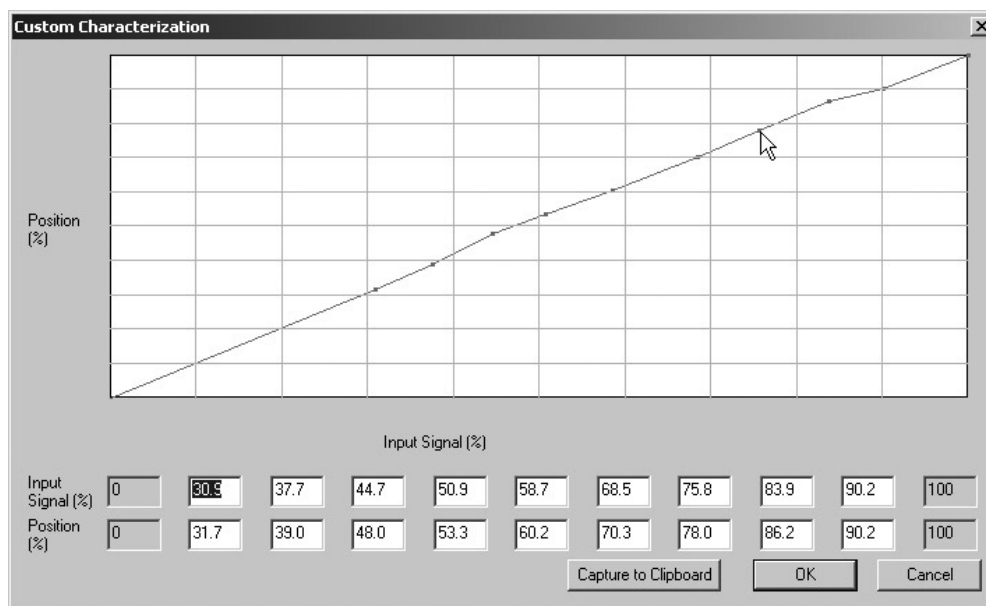

Figure 76 Deleting a Data Point
1. Delete data points by selecting the data point and right clicking (Figure 76).